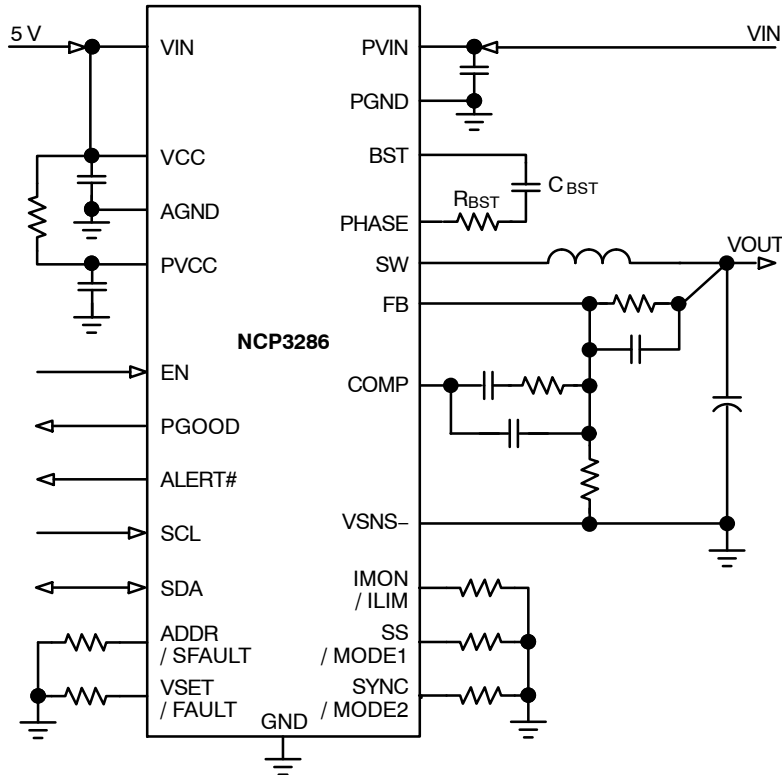

Figure 2. Typical 12 VIN, 40 A Application Circuit with External 5 V VCC Supply (LDO Disabled)
5. Operation at  $<4.5V_{IN}$  requires external 5 V supply be applied to the VIN and VCC pins per Figure 2.